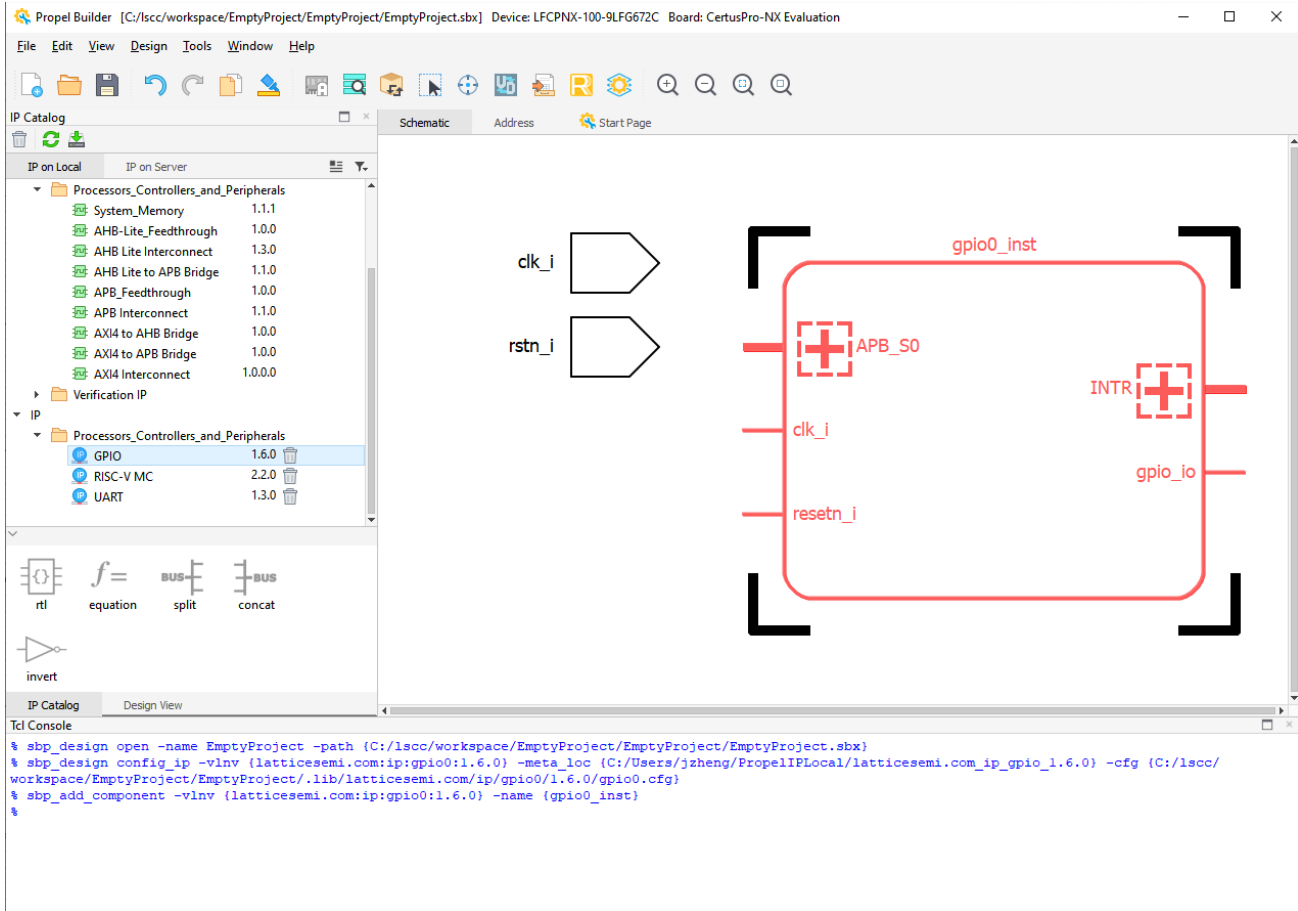

Figure 2.23. Propel Builder Schematic View Shows the Module Instance
9. Click **OK**. The schematic block for the module appears in the **Schematic** view (Figure 2.23).